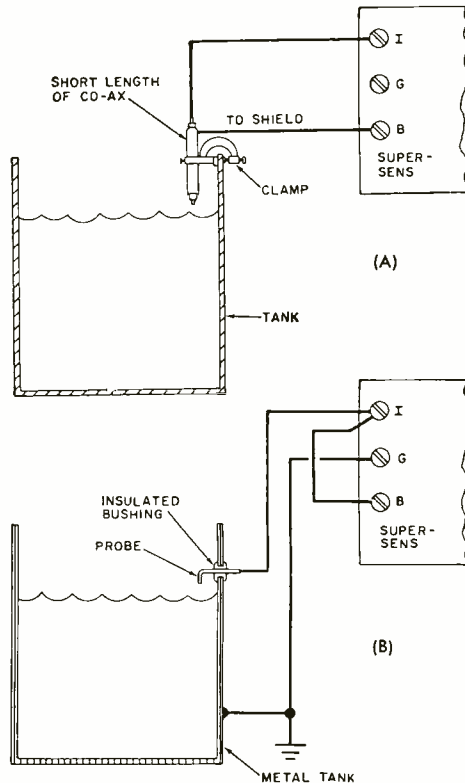

Fig. 7. Levels of low- and high-conductive liquids can be monitored by easily made probes.
**Liquid Level Control.** Farmers, chemical engineers, food processors, electroplaters, beverage manufacturers, industrial plant operators and others need to check or maintain liquid levels in large tanks or vats from time to time. *Super-Sens* can do an excellent job in such applications when used with suitable sensor probes. Typical techniques are shown in Fig. 7.
A short length of rigid coaxial cable can be used as a simple liquid sensor probe if clamped to the side of a tank. If the cable's shield is connected to the instrument's  $B$  terminal and the center conductor to the  $I$  terminal, the relay will close when the liquid reaches the exposed lower end of the cable. Connections are as shown in Fig. 7 (A).
**Rain Alarm.** A standard moisture sensor plate will make *Super-Sens* serve as a rain alarm. The sensor plate leads are connected as shown in Fig. 8 (A) and operate in the same way as the level control in Fig. 7 (B). Just a drop or two of rain on the sensor plate is enough to cause the relay to open.
**Humidity Control.** A modification of the "rain alarm" circuit is shown in Fig. 8 (B). Here, the moisture sensor plate is connected and operated in the same manner as the circuit shown in Fig. 7 (A). With this arrangement, *Super-Sens*' high sensitivity will respond to the slightest trace of moisture and close the relay. It can detect the small amount of moisture condensed from a person's breath and can be used, among other applications, for controlling a dehumidifier.